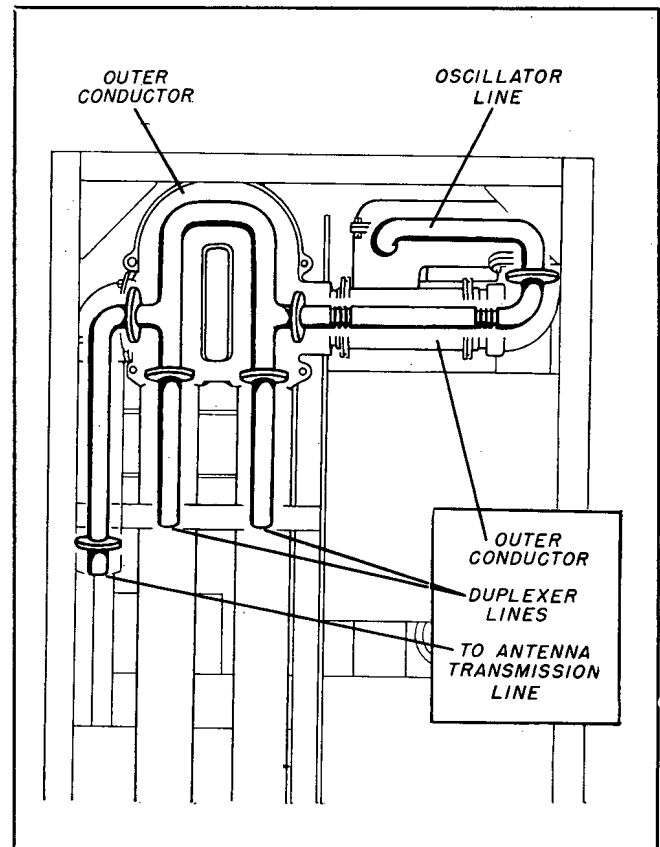
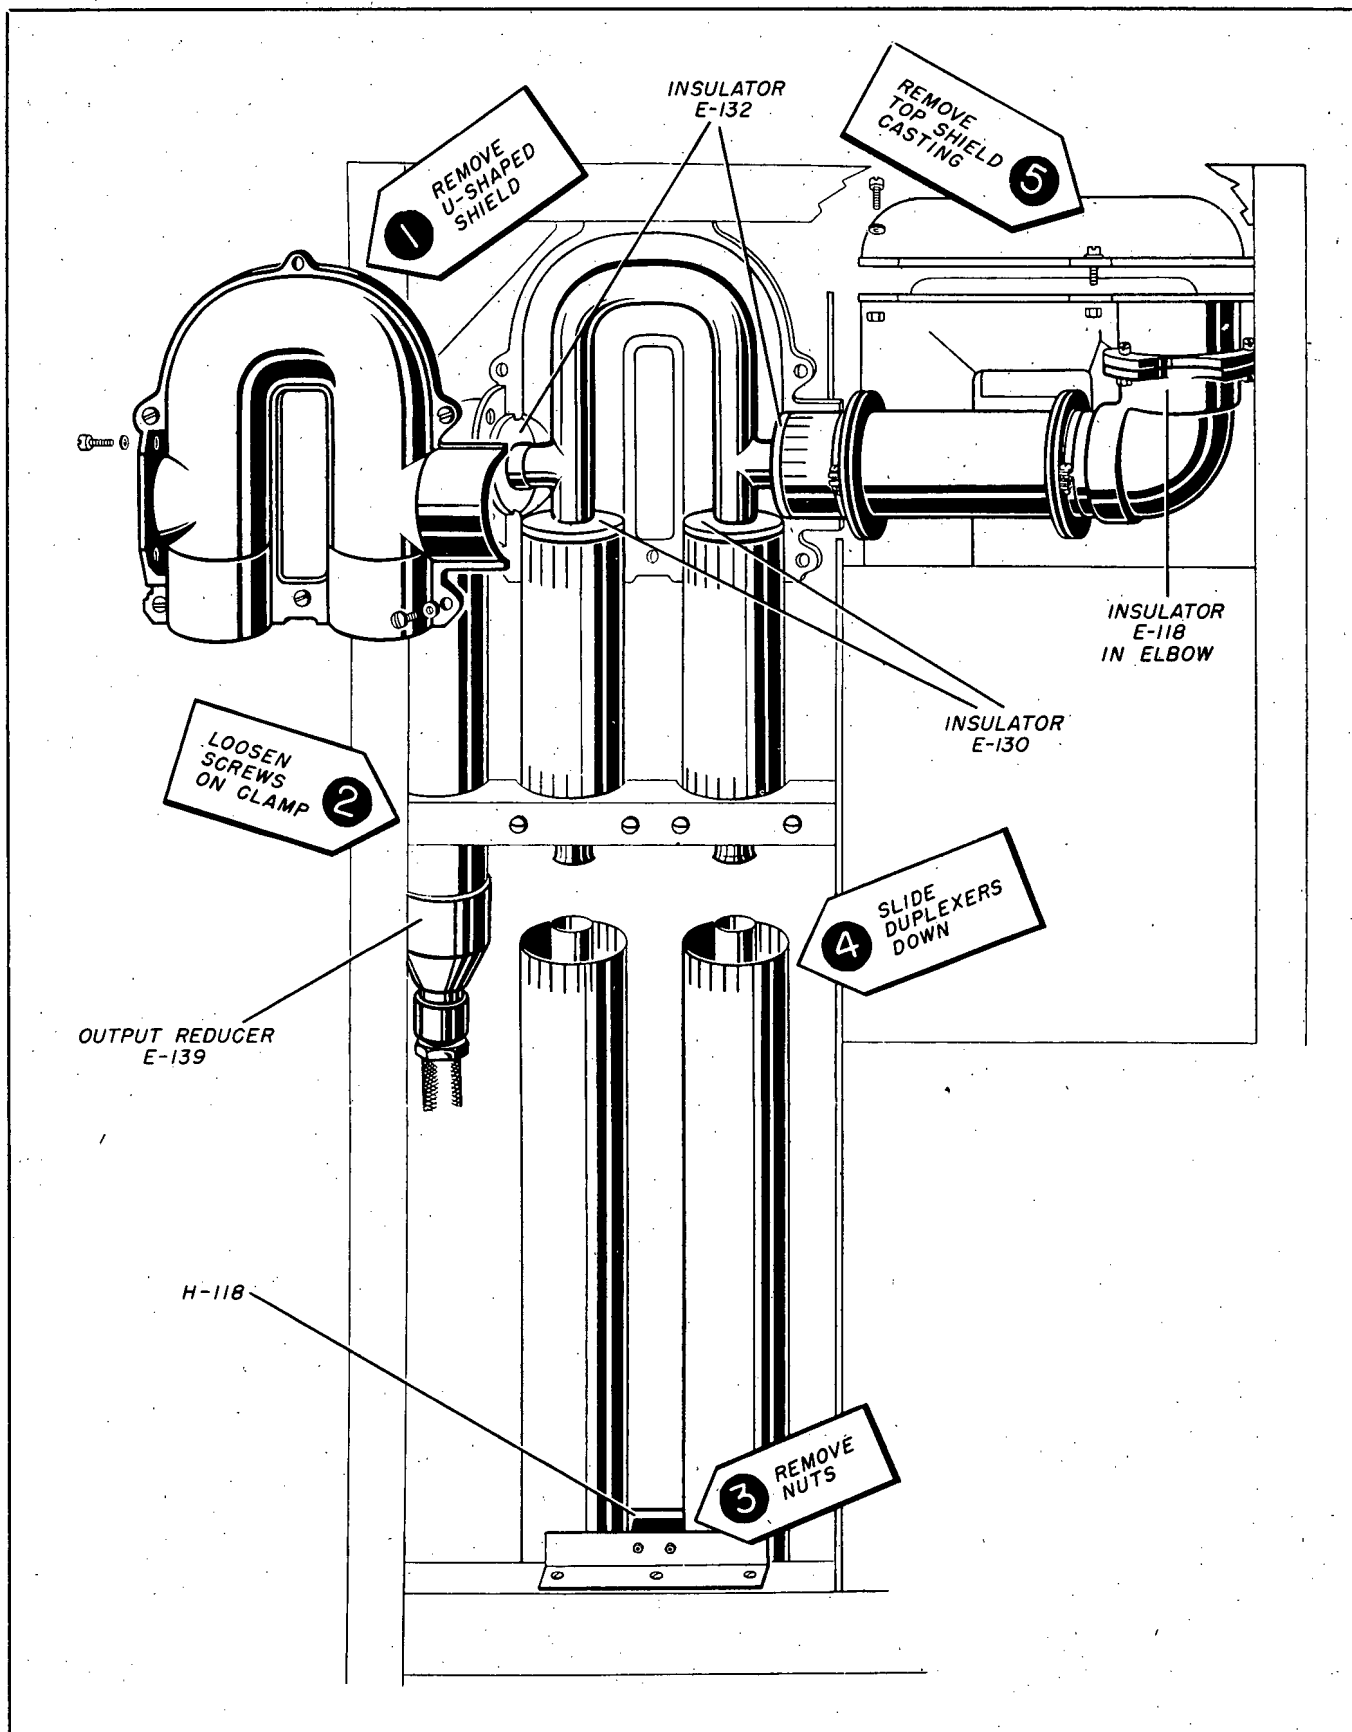
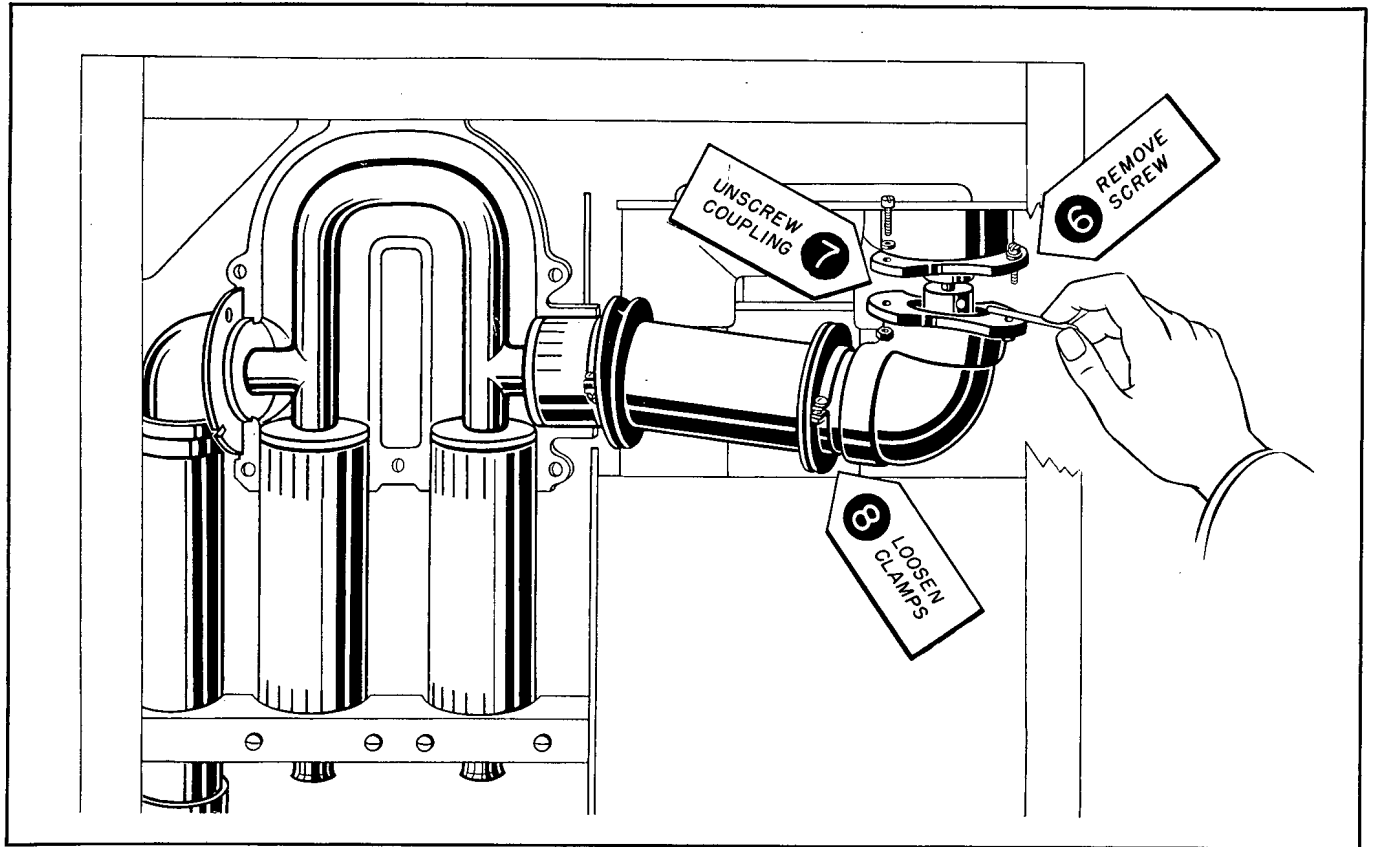

Figure 7-23. R-F Line Assembly in Transceiver
Figure 7-24. Disassembly of Duplexers and U-Section
Figure 7-25. Disassembly of Oscillator Line
(1) With the exception of the duplexers and tuning stubs, all of the parts in the r-f line assembly in the Transceiver are shown in the exploded view in Fig. 7-22. This figure may be used to identify parts and to convey an idea of how they are assembled. A schematic diagram of these same parts is shown in Fig. 7-23. This figure shows the location of the assembled parts in the Transceiver. These parts are the ones most likely to require removal. The duplexers and tuning stubs require little attention beyond an occasional drop of oil on the tuning mechanisms. The replacement of spark gap points in the duplexers is described in a separate paragraph. The section of the r-f lines that is treated in this paragraph contains insulators that may require occasional replacement.
(2) To remove the r-f lines shown in Fig. 7-23, it is necessary to remove the rear panel of the Transceiver as a preliminary step. The next step which is the first real step in disassembly, is shown in Fig. 7-24. This step is the removal of the U-shaped shield or outer conductor shown in Step 1. This part is held in place with the assembly screws shown exploded out from it in Fig. 7-24. Step 2 consists of loosening the
screws that hold the horizontal member that hold the duplexers in place. Then, to release the duplexers, remove the nuts at the bottom as shown in step 3 of Fig. 7-24. The duplexer stubs may now be disengaged from the upper section of the line and lowered to the position shown in step 4. Now proceed to the top of the Transceiver and remove the top cover. This exposes the top shield casting shown in step 5 in Fig. 7-24. Remove this casting as directed. Step 6 in Fig. 7-25 shows the removal of the screws that secure the elbow of the flexible coupling to the casting from which the top shield casting was removed in step 5. This exposes the coupling on the inner conductor. This coupling is disconnected by inserting a small rod, such as a nail or an Allen wrench, through the hole in the nut and turning it counterclockwise until the coupling comes apart. See step 7 in Fig. 7-25. The clearance here is very close and the rod will have to be slipped back and forth to permit a complete revolution of the coupling nut. Once the coupling has been disengaged, the clamps on each end of the flexible coupling should be loosened as shown in step 8 of Fig. 7-25.